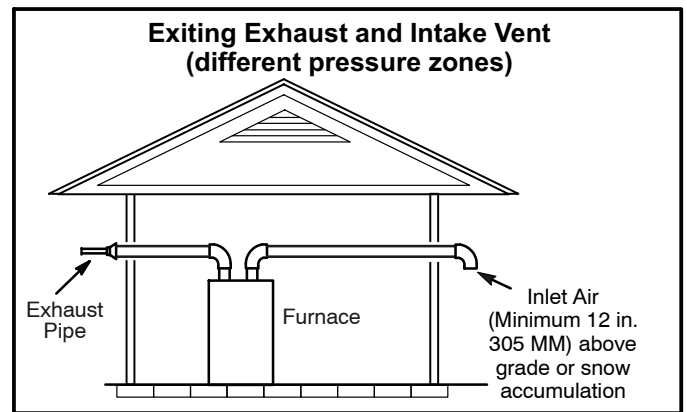
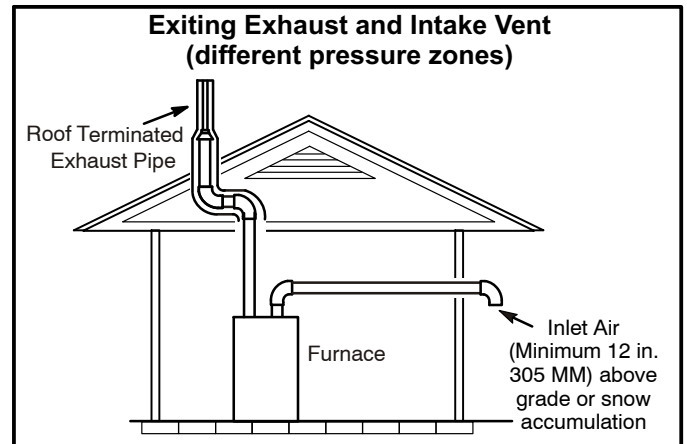

FIGURE 33
FIGURE 34
1. Intake and exhaust terminations are not required to be in the same pressure zone. You may exit the intake on one side of the structure and the exhaust on another side (figure 33). You may exit the exhaust out the roof and the intake out the side of the structure (figure 34).